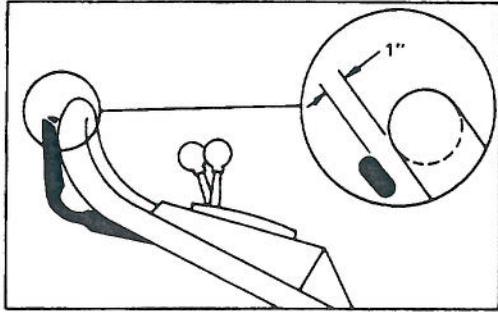

Figure 18
3. **CHECK ADJUSTMENT** — Slowly pull mower backward while control bar is gradually moved toward handle. Adjustment is correct when rear wheels stop turning and control bar is about 1-inch from handle (Fig. 18).